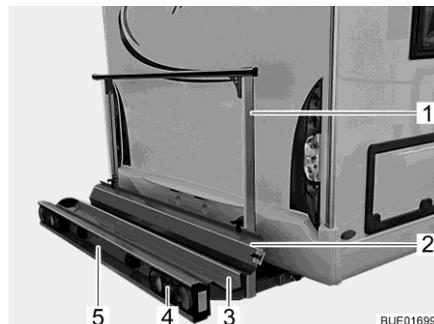
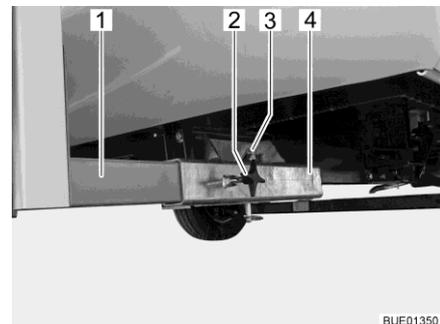

Fig. 7 Load rack
Fig. 8 Attachment to vehicle
The load rack (Fig. 7) permits transport of a motorcycle or a motor scooter weighing up to 130 kg.
- Rack trough (Fig. 7,3) and retaining clip (Fig. 7,1) with attachment to vehicle (Fig. 8)
- Rear lights (Fig. 7,4)
- Vehicle licence plate light (Fig. 7,5)
- Ramp (Fig. 7,2)
Attachment to vehicle The two side members (Fig. 8,1) of the load rack are fixed to the floor of the vehicle by means of tommy screws (Fig. 8,2) on the square drives (Fig. 8,4). The load rack is secured by a bolt (Fig. 8,3) with locking ring.